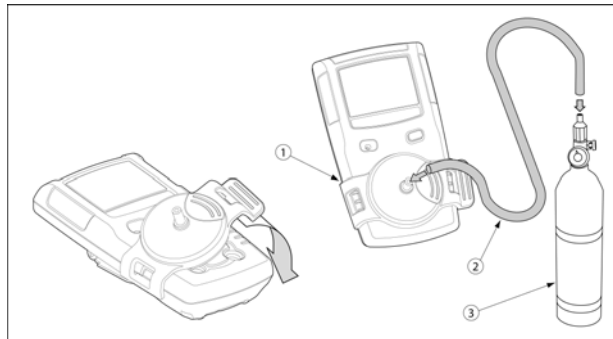

Figure 3. Applying Gas to the Sensors
The calibration cap and hose, which is shipped with the detector, simplifies sensor testing and calibration. Figure 3 and Table 10 show how to use it when applying gas to the sensors.
- 🔊 flashes and **AUTO-SPAN** remains lit as you attach the calibration cap and apply gas to the sensors at a flow rate of 250 to 500 ml/min. (refer to Figure 3. Applying Gas to the Sensors).